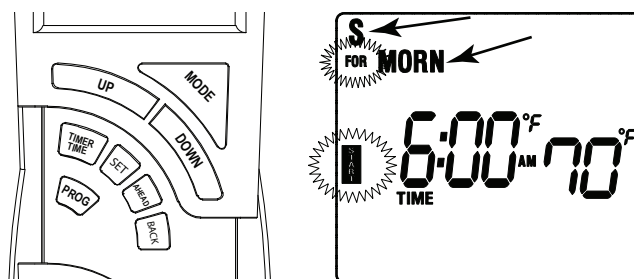

Fig. 20 Setting Day and Period of Day
STEP 1: Press the PROG button for 4 seconds and release. The words **START** and **For** will begin to blink (Fig. 20). The current DAY, PERIOD, TIME and SET temperature of the built-in factory program will also be displayed.